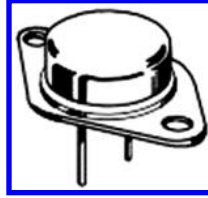

Figure 1.54: You cannot put this type of transistor into the hFE socket of DMM.
**Note 2:** You can only fit the small transistor into the socket. If you want to test a big transistor, then you need to connect the transistor leads to the socket holes with the aid of small wires (Fig. 1.54).